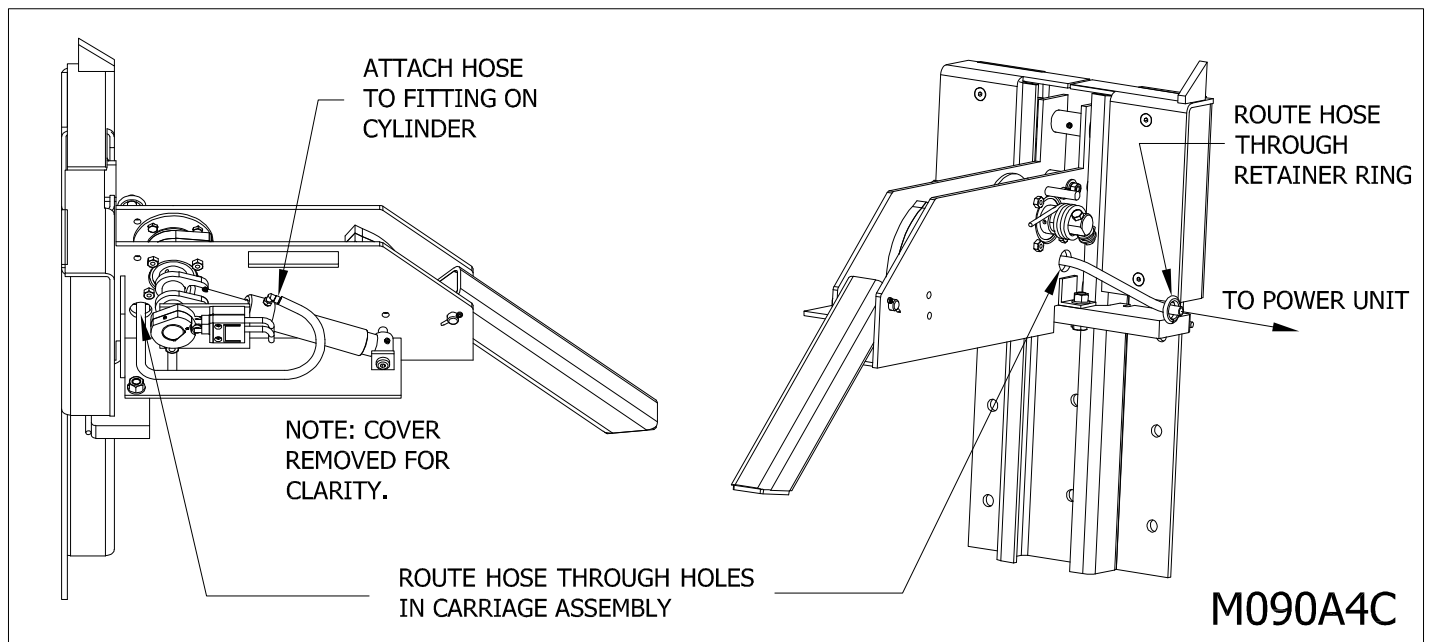

Figure 11: Hose Routing
2. ☐ Feed the hydraulic hose through the conduit from the power unit to the cylinder on the restraint (See “Figure 11: Hose Routing” on page 17). Connect and secure.